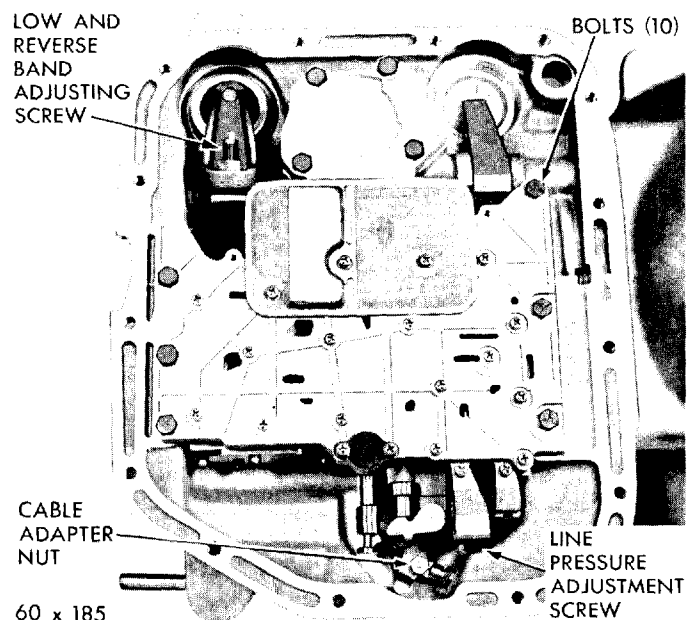

Fig. 11—Bottom View of Transmission (Pan Removed)
(1) Raise vehicle, drain transmission fluid and remove the oil pan.
(2) Loosen the adjusting screw lock nut and back off nut approximately five turns (Fig. 11). Check adjusting screw for free turning in the lever.
(3) Using Wrench, Tool C-3380 with adapter C-3790, tighten band adjusting screw to a reading of 47-50 inch-pounds torque.